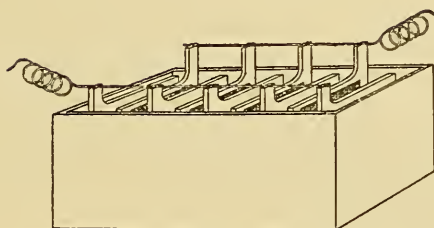

Fig. 4
20. After the plates are prepared in this manner, they are placed in a lead-lined tank containing a solution of sulphuric acid and water. Current is passed through the plates and solution, as shown by Fig. 4, the current entering through half the number of plates and leaving through the other half.